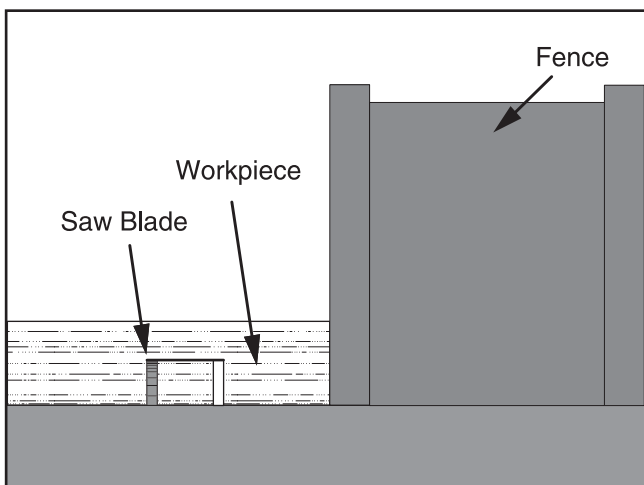

Figure 48. Single-blade dado second cut.
- Re-adjust the fence so the blade is aligned with the other edge of the intended dado channel (**Figure 48**).